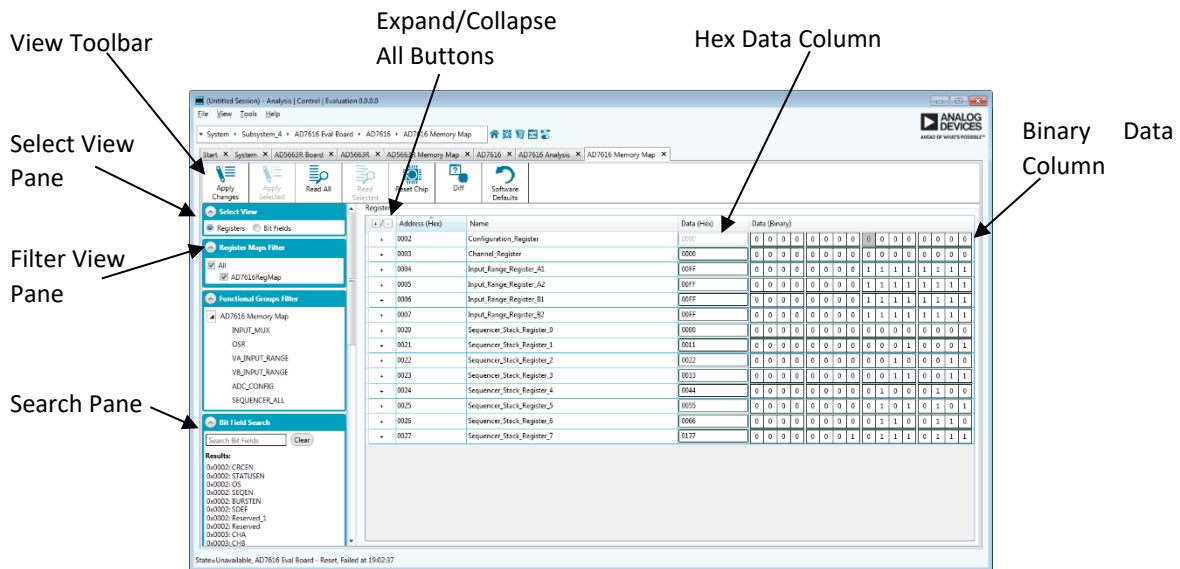

Figure 3-12: Memory Map View – Registers Visible
The Memory Map View shows all registers and bit fields that make up the component, Figure 3-12.
- **Registers View** – Displays all registers in the component, Figure 3-12. These registers can be expanded to show the bit fields within.
The Register view, Figure 3-12, allows you to configure registers at a bit level. The value can be changed either by changing the hexadecimal value in the hex data column or by clicking on individual bits in the binary data column. Registers can be expanded to show the bit fields that make them up and these bit fields can also be controlled by toggling the bits.
You can switch between viewing registers, Figure 3-12, and bit fields, Figure 3-13, by changing the selection in the select view pane on the left-hand side of the view.